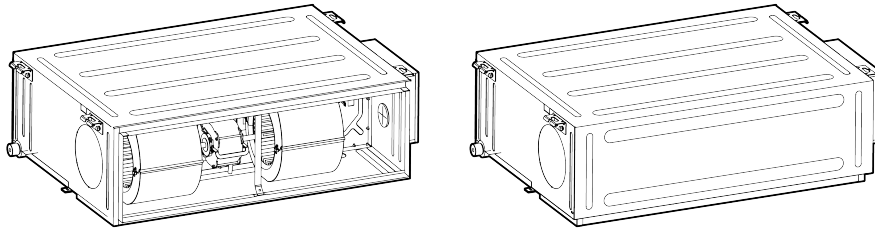

Fig.4.4.4
- (1) The default installation location of the rectangular flange is at the back and the return air cover plate is at the bottom, as shown in Fig.4.4.4.